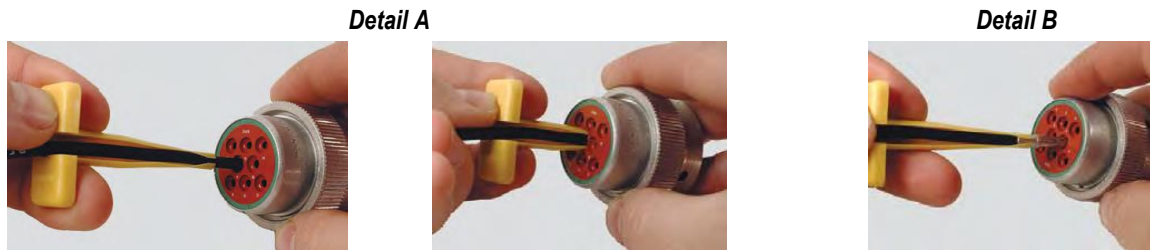

Figure 2
1. From the rear of the connector, align the tool tip with the contact cavity of the contact to be removed. Place the wire of the contact over the tool wire entry slot and apply light pressure on the wire until it enters the wire entry slot. See Figure 2, Detail A.
2. Slide the tool along the wire and into the contact cavity until the tool tip engages the contact and resistance is felt. See Figure 2, Detail A.
3. Gently pull the tool with the wire until the contact is removed. See Figure 2, Detail B.